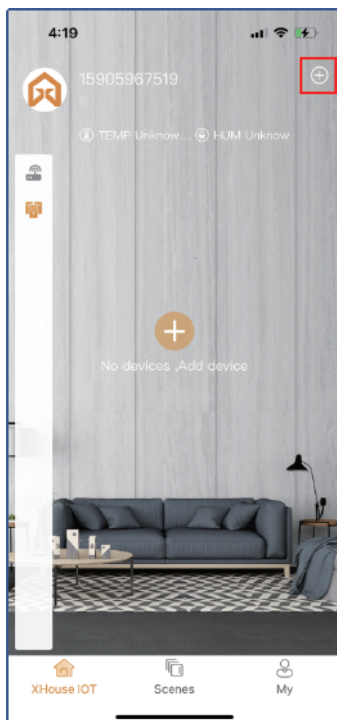

Fig 1
Step 1. Power on the device, open the APP. Press the “⊕” on the top right corner to add the device, then select the “ Sliding Gate ” which has a orange cycle on the top right corner. (Fig 1 and 2)